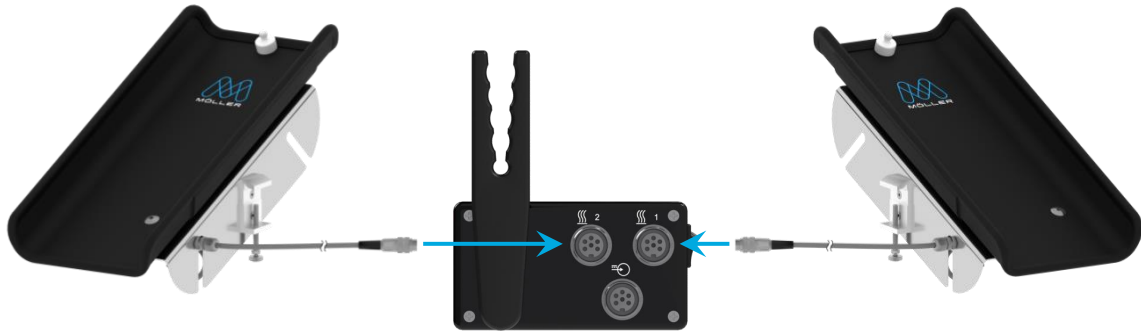

Figure 6:
7. Push the plug into the connection socket so that the guide rails interlock. There should be hardly any resistance (Figure 6).